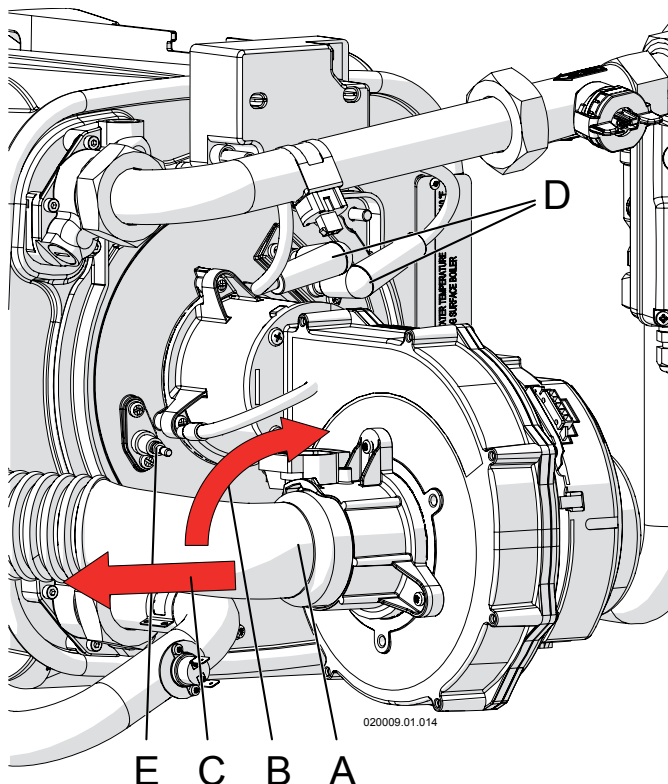

Figure 17-4 Remove the air inlet silencer
4. disconnect the two wires "D" (Figure 17-4) from the ignition electrodes and the wire "E" (Figure 17-4) from the flame detection electrode;
5. rotate the air inlet silencer "B" (Figure 17-4) in the up direction;
6. pull in the left direction "C" (Figure 17-4) the air inlet silencer and remove it from the fan;